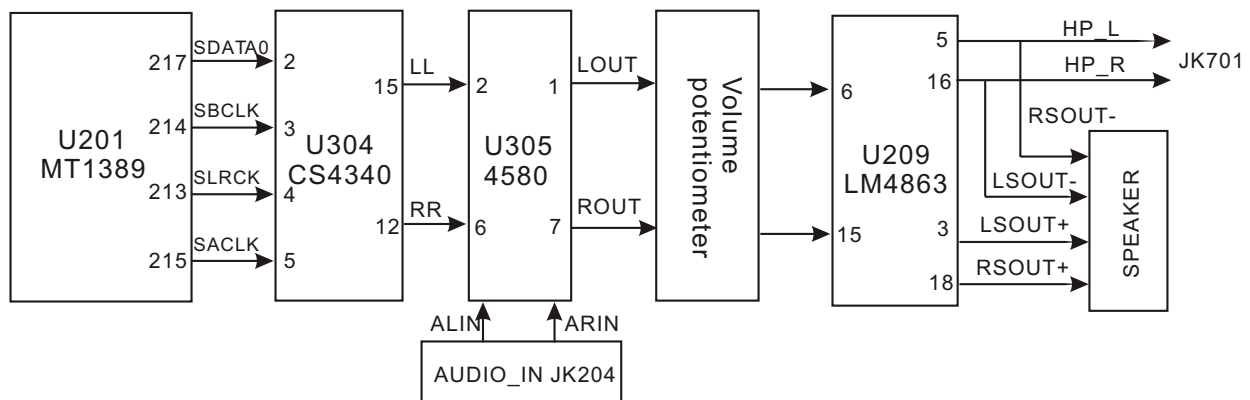

Figure 3.2.6.1 Audio output circuit block diagram
1. Audio output circuit block diagram is shown in the figure 3.2.6.1: